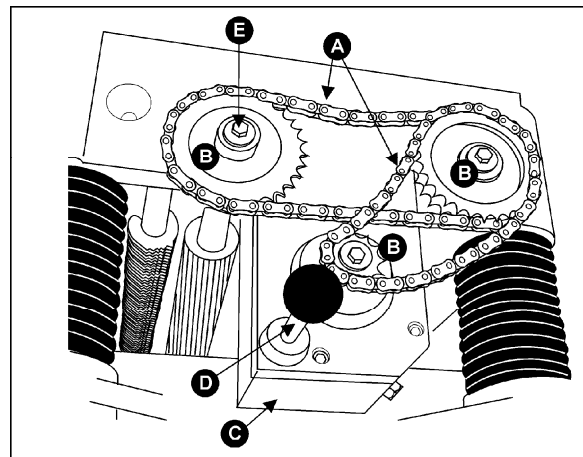
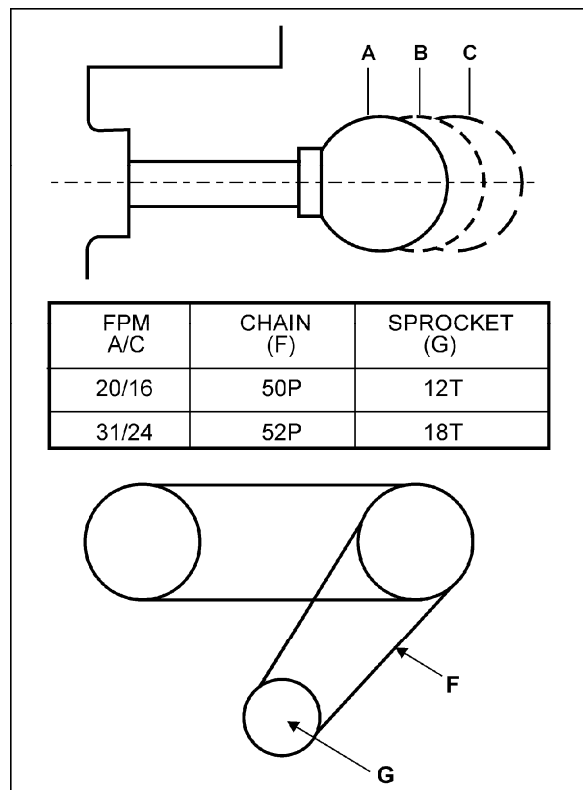

Figure 30
Figure 31
Your machine is equipped with a spiral, serrated infeed roller and a solid steel outfeed roller. When the feed rollers are engaged, they turn to feed the stock. The feed rollers slow automatically when the machine is under heavy load for best planing in all conditions. The feed rollers are driven by chains (A, Figure 30) and sprockets (B, Figure 30) which take power directly from the cutterhead through the oil bath gear box (C, Figure 30).
The gear box has two feed speeds. These are set by pulling out or pushing in the shift lever (D, Figure 30) while the machine is running. The feed speed range is shown in Figure 31.
The lowest feed speeds for your planer (16.2 fpm and 20.7 fpm) can be obtained by replacing the lower (gear shaft) sprocket and its chain (Figure 31).
2. Remove the three hex cap screws and washers (E, Figure 30).
3. Remove the three sprockets (B, Figure 30) from the infeed roller, outfeed roller and the gear shaft at the same time.
4. When all sprockets have been removed, replace the gear shaft sprocket (G, Figure 31) and its chain (F, Figure 31) with those of a different size.
5. Mount all three sprockets and chains to their shafts, and tighten all hex cap screws and washers (E, Figure 30).